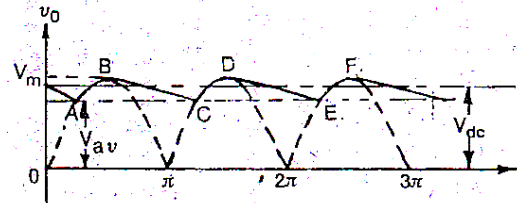
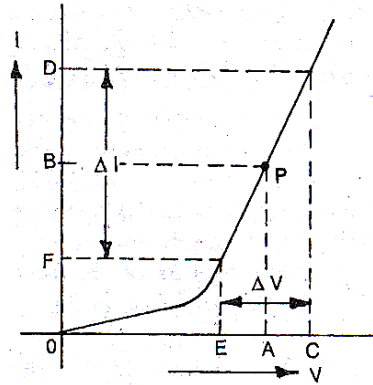

Fig.76.2
Fig.77.1
**Working:** The working of a shunt capacitor filter can be explained with the help of a wave diagram shown in Fig.76.2. The dotted pulsating wave shows the output of a full-wave rectifier. When the rectifier voltage is increasing, the capacitor is charged to  $+V_m$  (see curve AB). At point B, the rectifier voltage tries to fall but the charged capacitor immediately tries to send the current back to the rectifier. In this process, the rectifier diodes are reverse biased and stop giving supply to the load. Thus, the capacitor discharges (B to C) through the load. The capacitor continues to discharge until the source voltage (the dotted curve) becomes more than the capacitor voltage (point C). The diode starts conducting and the capacitor is again charged to peak value  $+V_m$  (point D). During this time (C to D), the rectifier supplies the charging current  $i_c$  and load current  $i_L$ . So, capacitor not only removes the a.c. component from the output but it also improves the output voltage. The smoothness and magnitude of output voltage depends upon the time constant  $CR_L$ . The longer the time period, the steadier is the output voltage. This can be achieved by using a large value of capacitor.
**Q.77 Define static and dynamic resistances for a diode. What are its uses ?** **Marks (7)**
**Ans:** (i) **Static or D.C. Forward Resistance:** The opposition offered by a diode to the direct current flow in forward bias condition is known as d.c. forward resistance. It is measured by taking the ratio of d.c. voltage across the diode to the d.c. current flowing through it. Refer to the characteristic of a diode shown in fig 77.1, for operating point P, the forward voltage is OA and the corresponding forward current is OB.